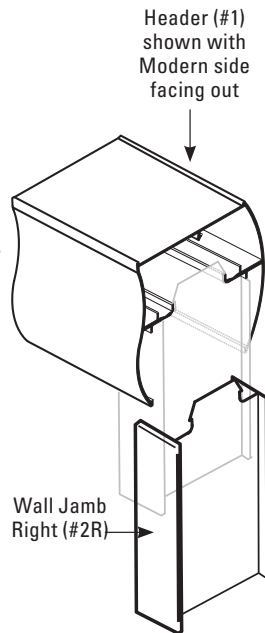

Figure 5
C. The Coast™ comes with a positive snap-lock feature which eliminates the need for screws to hold the Header in place. Choose which of the two styles on the reversible Header you would like to face out, and position it over the top of the Wall Jambs. Spread the Header sides slightly as you pull it down onto the Wall Jambs. You should be able to hear and feel when it solidly locks in place (See **Figure 5**).